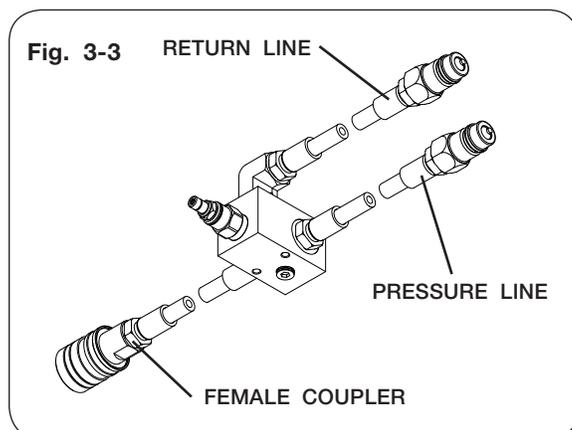

Fig. 3-3
3. Attach pressure and return couplers to the tractor and the female coupler to the track. See Fig. 3-3.
- Start tractor and use SCV to pressurize line as shown in Fig. 3-3. The valve in the tensioner hose will regulate the pressure for the track.